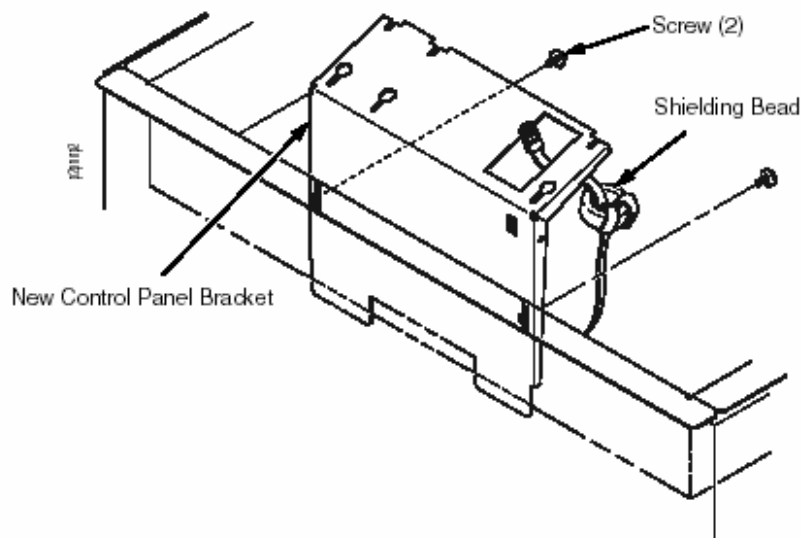

Figure 2. Installing the New Control Panel Bracket
2. Position the new control panel bracket in the cabinet and install the two mounting screws. Tighten the bracket mounting screws just enough to hold the bracket in position when you move it up or down along its adjustment slots. (Figure 2.)